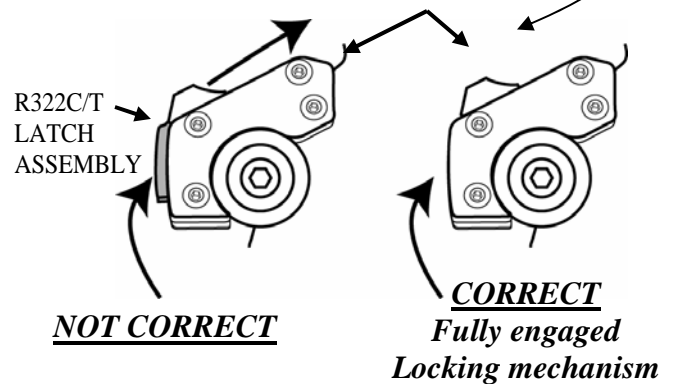

Fig. 1
2. Use the nuts and washers supplied with the fairing and fit the clutch side mounting plate ② and throttle side mounting plate ③ onto the rear of the fairing (Fig 1).
3. Remove OEM windshield and hardware (if fitted) using 5mm allen wrench ⑪ provided.
4. Install short 8mm screw ⑦ and washer ⑨ provided into the hole in the fork tin on each side where the OEM hardware was attached and tighten using 5mm Allen wrench. ⑪